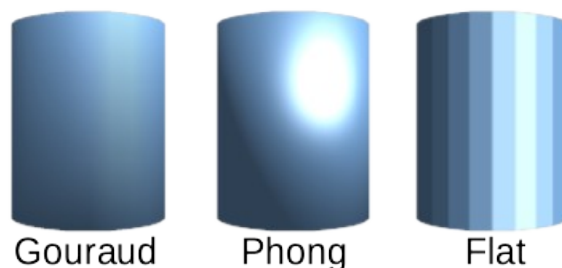

Figure 20: Examples of shading mode
- **Shading** – specifies the mode of shading applied to a 3D object (Figure 20).